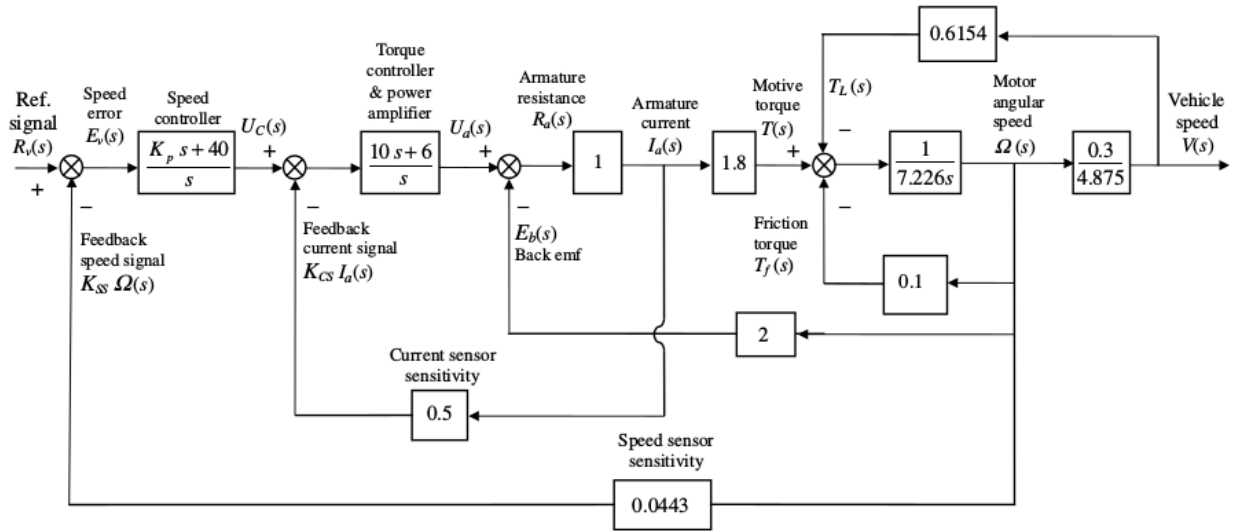

Figure 1: Block diagram of an HEV showing various components.
The block diagram of a possible cascade control scheme for a hybrid vehicle driven by a DC motor (with appropriate parameter values) is shown in Figure 1. Upon
- Observe, from Figure 1, that the speed control has a proportional gain,  $K_p$ , that needs to be adjusted. Use the Routh-Hurwitz stability method to find the range of positive  $K_p$  for which the closed-loop system is stable.
- For an appropriate choice of input signal, simulate the response of the system shown in Figure 1 using MATLAB/Simulink. Tune  $K_p$  as per the limits calculated in in Pre-lab exercise (a) and verify the behaviour of the system as predicted by the Routh stability criterion.